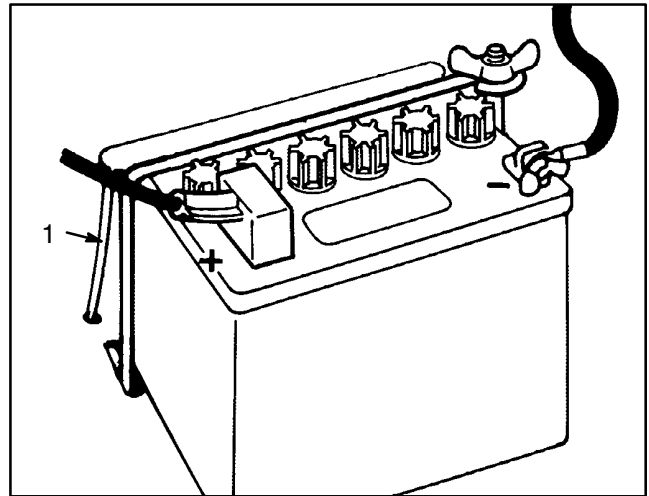

Figure 8
9. Install the battery with the terminal posts toward the rear of the machine and vent tube on left side of battery, through the hole in the frame (Fig. 8).
11. Install the red positive cable (rubber boot over end) to the positive (+) terminal and the negative cable (black) to the negative (-) terminal of the battery and secure them with capscrews and wing nuts. Slide the rubber boot over the positive terminal to prevent a possible contact (Fig. 8).